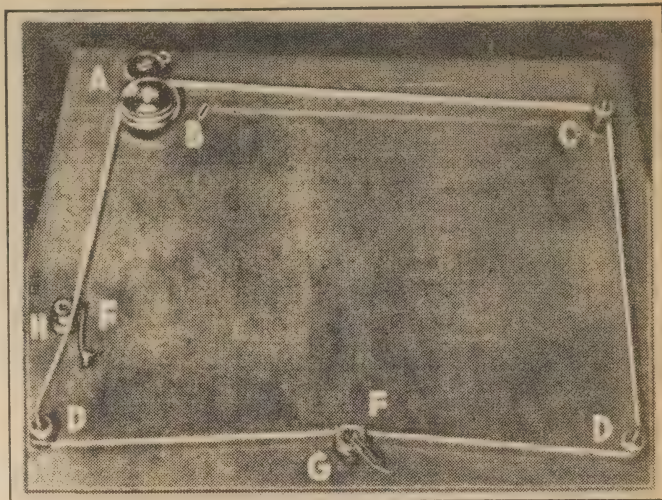
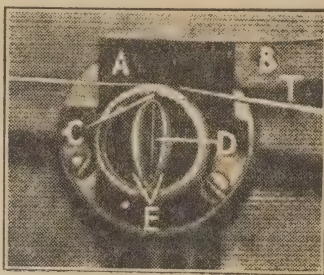

Fig. 1.—General view of the completed recorder.
Fig. 5.—Enlarged detail of the playback head, showing the windings on the mumetal strip.
The simple mechanism shown in Fig. 1 will record short phrases, such as "sorry, no cigarettes," "Keep moving, please," "Queue along here," and so on; these phrases, once recorded, could be reproduced every few seconds for days, weeks or years, until the wire or tape itself had worn away.
Look again at Fig. 1. You will see a board, square in this case but any other shape will do as well, in the top left-hand corner of which is fitted a small electric motor. The motor used is a gramophone motor, but this is optional.
Fig. 1 (F) shows the recording head, and H in the same figure the playback head; the latter can be placed in any position, either close to or away from the recording head.
Recording and playback heads are quite easy to make. Referring to Fig. 1, you will notice a brass cup having a flange, which helps to fasten it down to the base-board. A is a piece of old felt hat forming a pad, B is a piece of spring (an old gramophone governor spring is suitable).
than a thousandth of an inch apart and thus form the magnetic "gap." What looks like sacking in Fig. 5 is the magnified grain of the bakelite board seen in Fig. 1, and the head shown in Fig. 5 is a magnified reproduction of that in Fig. 1.
left, the top set will point at 11 o'clock and the bottom set at 7 o'clock. Now wrap the strip with two layers of selotape and wind on about 120 turns of 32-gauge wire; try to leave a space in the middle of the strip to allow for bending round into circle, winding the wire evenly on both sides of the space—in Fig. 5 E indicates the two half windings.
The fittings shown in Fig. 1 to the left of the head and below the tape, and between the head G and roller D, are bakelite sockets to which are connected the adjacent heads. To make connection one has only to plug in the relative plug, and arrangements are made for either recording or playing back.
Both the heads shown in Fig. 1 are made in exactly the same way, except that H was made in a brass cup and G in a piece of brass tube fitted between two pieces of brass plate.